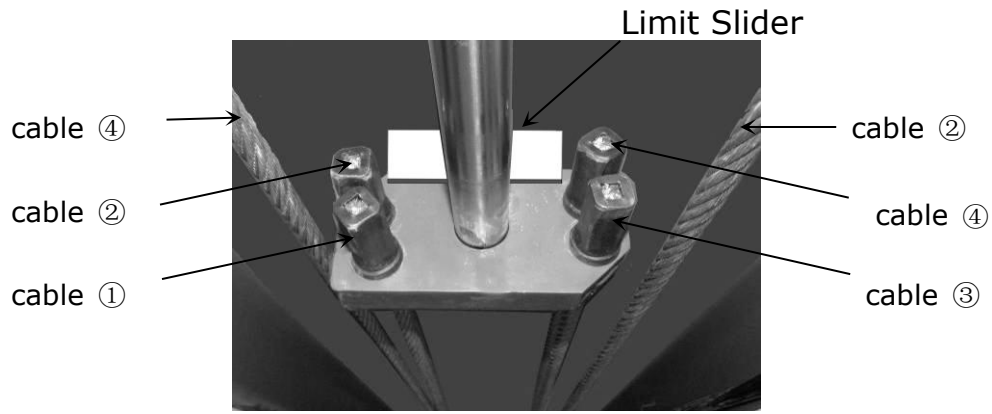

Fig. 30
3. Illustration for platform cables (See Fig. 30, 31, 32).